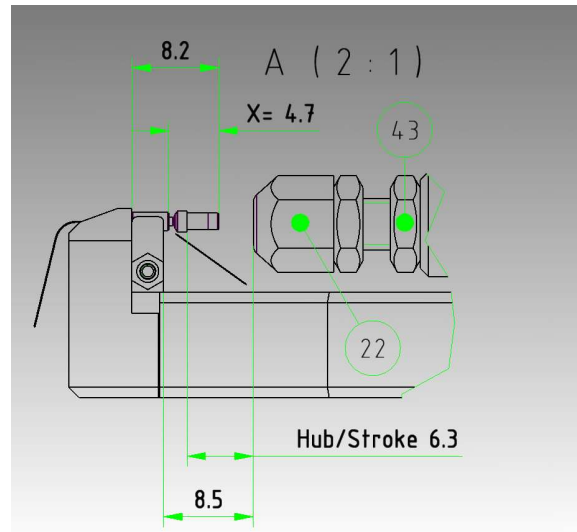

Figure 4
The recommended insertion dimension X is set up between 4.6mm and 4,9mm. The exact dimension must be determined by test contacting. The dimension 8,5mm is adjustable after loosening the hex nut (pos.43). The support nut (pos. 22) is turned by hand. Turning it by 90° corresponds to an axial adjustment of 0.125mm. Turning the support nut (pos. 22) anticlockwise to the left increases the insertion dimension and turning it clockwise right around decreases the dimension. After adjusting the hex nut (pos. 43) must be tightened again (see figure 4).